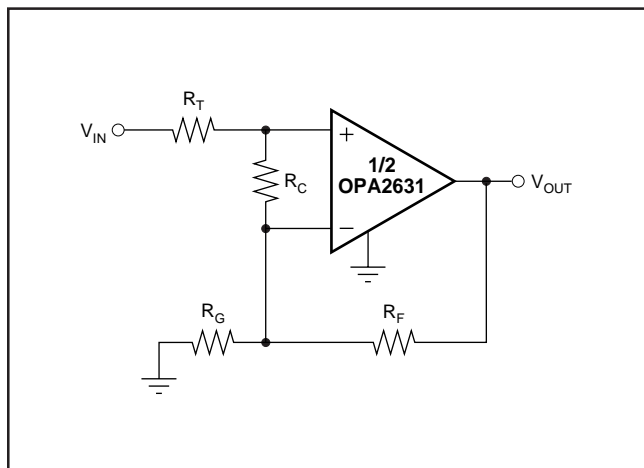

FIGURE 6. Compensated Non-Inverting Amplifier.
Figure 6 shows a non-inverting amplifier that reduces peaking at low gains. The resistor R_C compensates the OPA2631 to have higher Noise Gain (NG), which reduces the AC response peaking (typically 5dB at $G = +1$ without R_C) without changing the DC gain. V_{IN} needs to be a low impedance source, such as an op amp. The resistor values are low to reduce noise. Using both R_T and R_F helps minimize the impact of parasitic impedances.
Since the OPA2631 is a voltage feedback op amp, a wide range of resistor values may be used for the feedback and gain setting resistors. The primary limits on these values are set by dynamic range (noise and distortion) and parasitic capacitance considerations. For a non-inverting unity gain follower application, the feedback connection should be made with a 25Ω resistor, not a direct short (see Figure 6). This will isolate the inverting input capacitance from the output pin and improve the frequency response flatness. Usually, for $G > 1$ application, the feedback resistor value should be between 200Ω and $1.5k\Omega$. Below 200Ω , the feedback network will present additional output loading which can degrade the harmonic distortion performance. Above $1.5k\Omega$, the typical parasitic capacitance (approximately $0.2pF$) across the feedback resistor may cause unintentional band-limiting in the amplifier response.
The criterion for setting this R_S resistor is a maximum bandwidth, flat frequency response at the load. For a gain of +2, the frequency response at the output pin is already slightly peaked without the capacitive load, requiring relatively high values of R_S to flatten the response at the load. Increasing the noise gain will also reduce the peaking (see Figure 6).
tance can add a pole and/or zero below 500MHz that can effect circuit operation. Keep resistor values as low as possible consistent with load driving considerations. The 750 Ω feedback used in the typical performance specifications is a good starting point for design. See Figure 6 for the unity gain follower application.